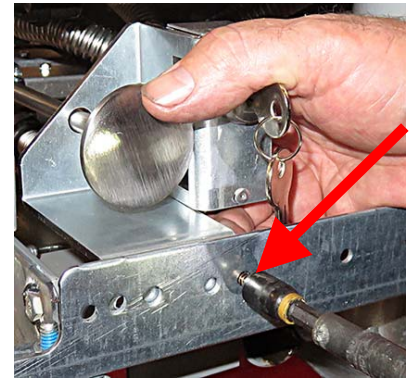

Figure 57
69. Attach the dispose valve handle bracket to the frame (see Figure 57).